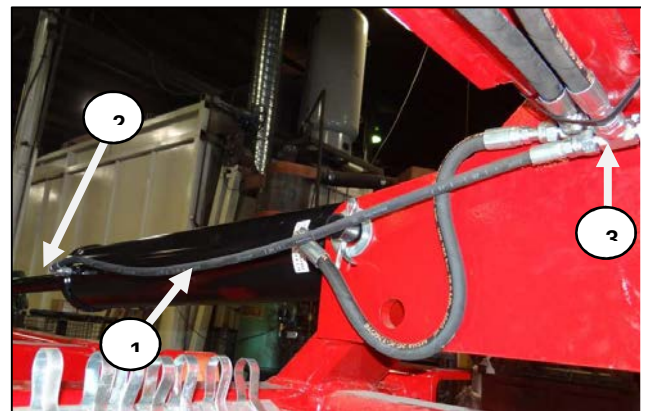

Figure 36
Install one 1/4x41" hydraulic hose (Item 1, Figure 36) SSTR-S90 from RH wing cylinder (Rod end) (Item 2) to 6MORT Tee (item 3)